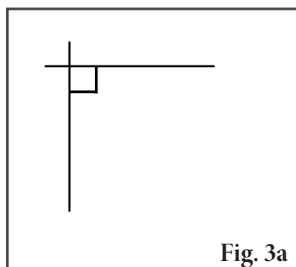
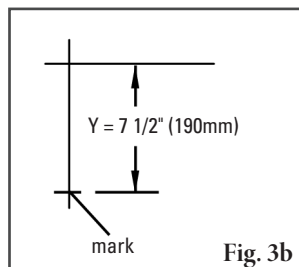
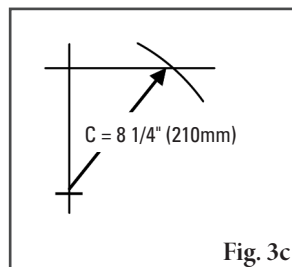

Fig. 3a
Fig. 3b
Fig. 3c
- Determine final dimension.** On a flat vertical surface, using a level, draw one horizontal line and one vertical line, creating a right triangle (Fig 3a). Measure down from the intersection the determined “Y” dimension and mark (Fig 3b). With the tape measure starting at the modified “Y” mark, swing the tape across the “X” line and mark at the “C” dimension where it crosses the “X” line (Fig 3c). Measure from the intersection to the “C” intersection and this will be your new “X” dimension (Fig. 3d).